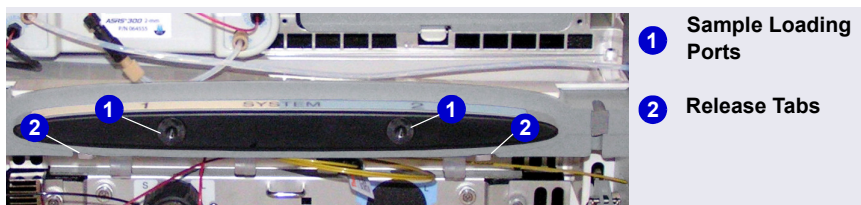

Figure 10-33. DC Sample Loading Ports and Release Tabs
2. Locate the metal release tab under the sample loading port on the front of the DC (see Figure 10-33). Press up on the tab to release the port and pull the port out the front of the DC.